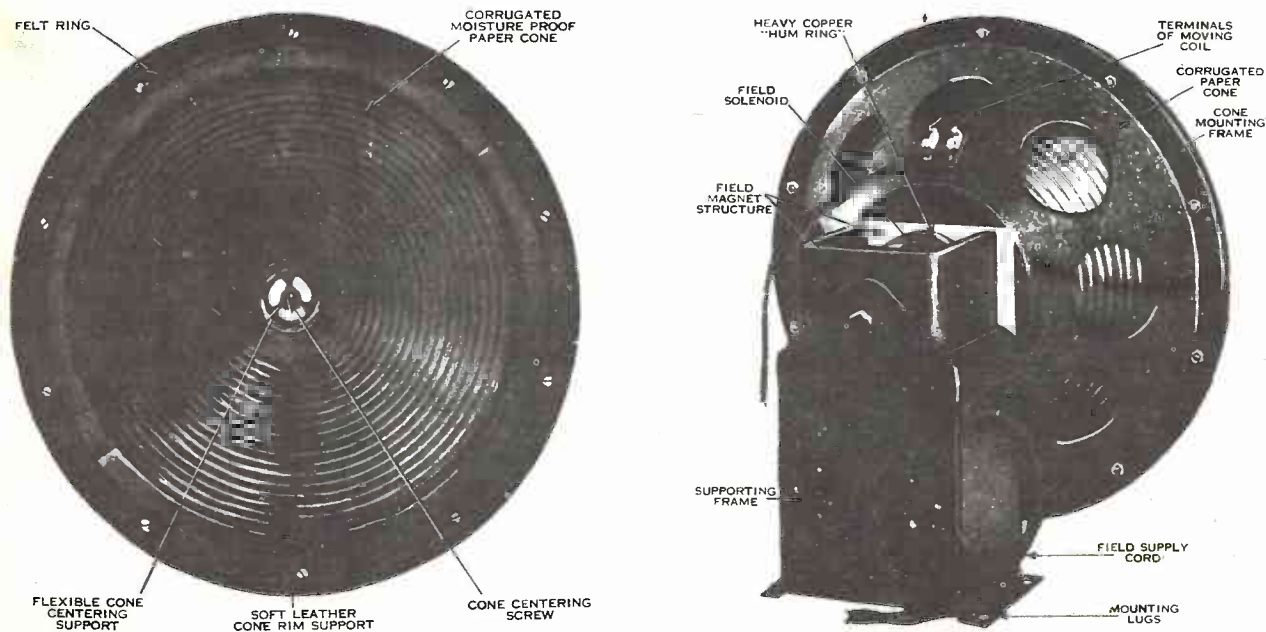
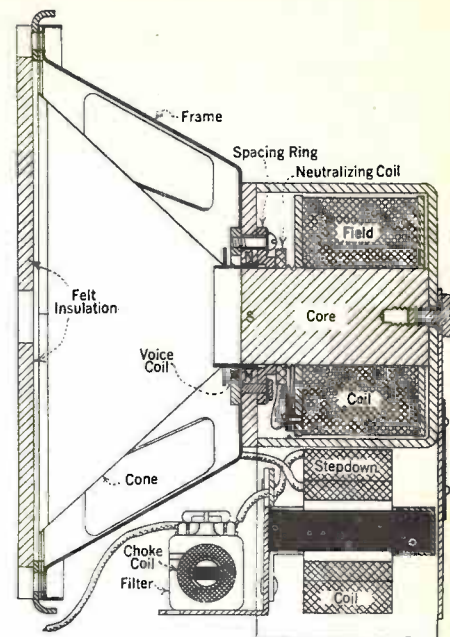

Fig. 44 - Front and rear views of the Stromberg Carlson P-18870 dynamic speaker.
Fig. 45 - Dynamic speaker diagram.
(3) Electrodynamic cone speakers. Nearly all the more recent sets employ this form of reproducer. A typical example is shown in Fig. 44. The diagrammatic illustration, Fig. 45, shows that it is composed of a powerful electromagnet and a moving coil or "voice coil," which is attached to the apex of a cone and arranged for free movement within the magnetic gap of the electromagnet. In addition to these, the speaker system comprises the source of direct-current supply for energizing the electro-magnetic field coil, and the output choke, filter or transformer adapting the voice
coil to the set output. Trouble may arise in any of these places, but we will first consider the main elements of the speaker shown in the illustration of Fig. 45.
(11) Hum. Hum in dynamic speakers is sometimes reduced by means of a short-circuited ring around the center pole, which produces a bucking effect on any magnetic changes in the field and holds the flux steady. (see Fig. 44). In some speakers, part of the pulsating field current is fed into the voice-coil circuit through a variable resistance in order to balance out any hum. In these speakers the hum is under control and